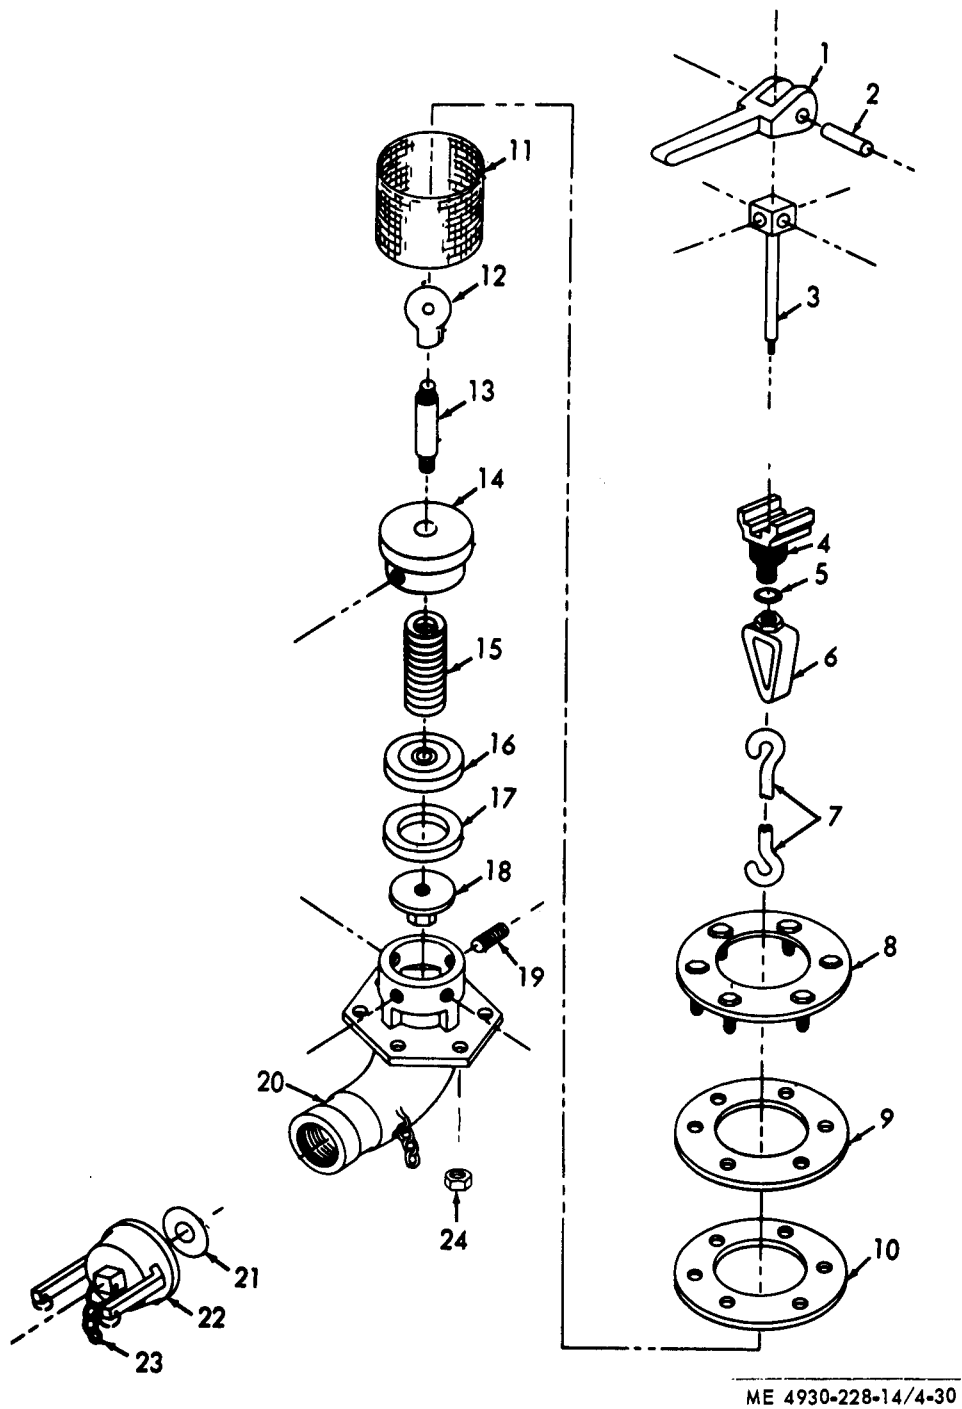

Figure 4-30. Discharge valve assembly, exploded view.
(3) Insure that tank has been completely drained and thoroughly flushed before entering tank.
(4) Enter tank thru manhole opening.
(5) Refer to figure 4-30. Loosen adjusting bale (6), disengage lift rod (7) from adjusting bale and remove lift rod.
(6) Outside the tank, remove six nuts (24) holding valve to sump ring (8) and remove valve assembly.
Key to figure 4-30.
b. Disassembly. Refer to figure 4-30 and disassemble valve.
(1) Clean all parts with cleaning solvent and dry thoroughly.
(2) Inspect all parts, for cracks, breaks, or other damage. Replace a defective part.
d. Reassembly. Refer to figure 4-30 and reassemble discharge valve.
(1) Position valve body (20) on sump ring (8) and install nuts (24).
(2) Inside tank, place lift rod (7) in stem (12) and adjusting bale (6), and tighten adjusting bale.
(3) Replace manhole cover (para 4-41).